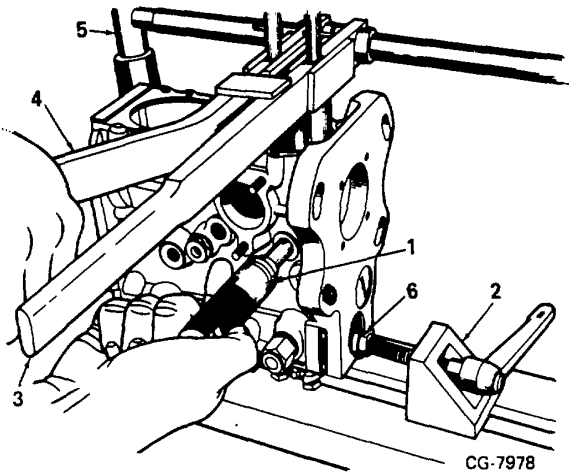

Figure 27. Tappet Removal (If Tappet Depressor Tool KDEP 1505 is not available)
- a. Mount pump in spring compressor KDEP 1067 (5, Figure 27). Place pump upside down with governor end toward vise. With spacer plate in between, slide clamping device (2, Figure 27) against right side of pump and secure pump in place.
- b. Position right lever (3, Figure 27) and then left lever (4) over first two tappets. Adjust crossbar (5) up or down to make levers point up slightly when resting on tappets.
- c. Holding one hand on tappet holder (1, Figure 27), depress left lever compressing both springs to unload and remove tappet holder. Hold onto holder when depressing tappets because foot of holder is spring loaded and tool will spring out.